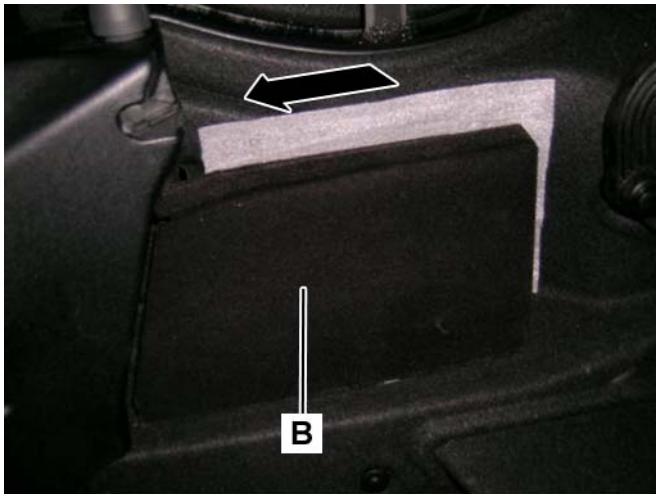

Figure 22
6. Pull back on the SDARS bracket part B until it touches the paneling. (Figure 22)
To prevent bonding, hold the paper between the Velcro on the SDARS bracket (B, Figure 22) and the trunk paneling while pulling back.